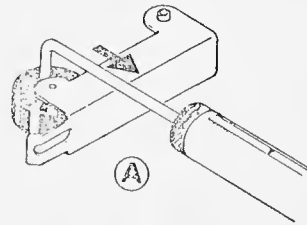

Fig. 7
$310 \pm 25$  p (Fig. 7)
- 3.2 Pinch Roller Pressure  $310 \pm 25$  p (Fig. 7)